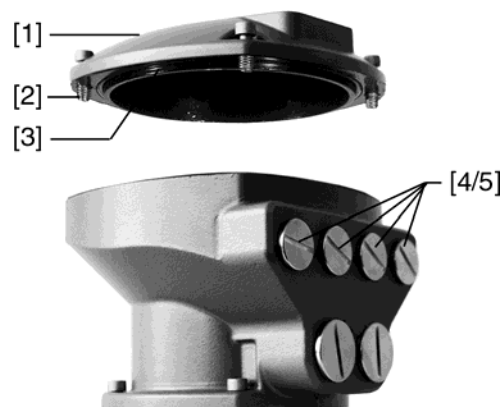

Fig. 1: FO round plug
The FO connection is located in the FO round plug. When removing the cover (Fig. 1, [1]), the connection board is easily accessible:
- RX Optical input (IN)
6. Clean sealing faces of cover (Fig. 1, [1]) and housing.
7. Check whether O-ring (Fig. 1, [3]) is in good condition, correctly insert O-ring.
8. Fit cover (Fig. 1, [1]) and fasten screws (Fig. 1, [2]) evenly crosswise.
9. Tighten cable glands (Fig. 1, [4]).